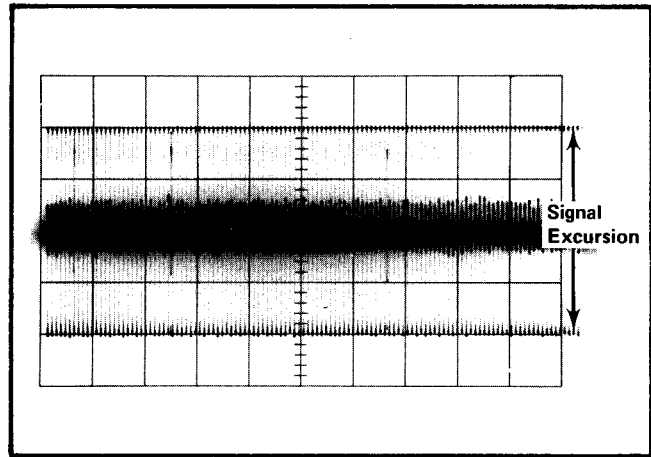

Fig. 7-7. Typical test Oscilloscope display when adjusting Start Comparator Comp. Bal.
- CHECK—Test oscilloscope display. Noise waveform similar to that shown in Fig. 7-7.